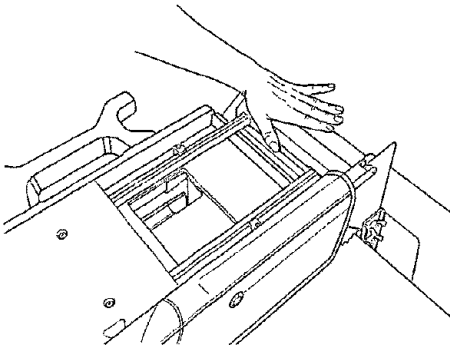

Fig. 23
**NOTE:** When moving the miter base, keep hands and fingers out of areas where they may be pinched. Pull the miter base into position with fingers extended and using only your thumb as shown in figure 23.